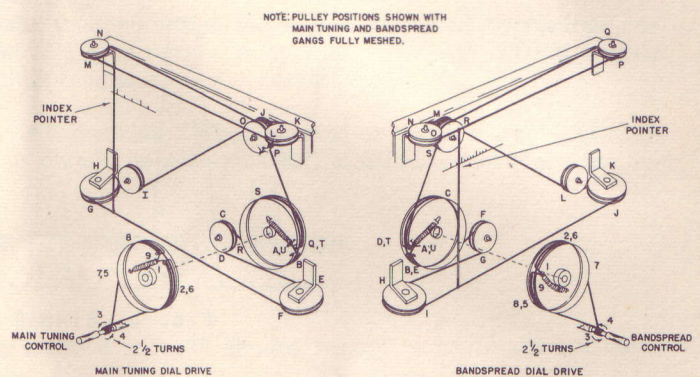

FIG. 9. DIAL CORD STRINGING PROCEDURE 92C962-A
**DRIVE SHAFT** - To restring either one, use a 26 inch length of 30 lb. test dial cord. Tie one end of the cord to the spring at position 1, stretch the spring and follow the stringing sequence 1 to 9 as shown in Fig. 9. At position 9, tie the cord securely to the spring. Note that two and one half turns of dial cord are wrapped around the drive shaft for proper traction.
**POINTER DRIVE** - To restring either one, use a 66 inch length of 30 lb. test dial cord. Tie one end of the dial cord to the spring at position A, stretch the spring and follow the stringing procedure A through U as shown in Fig. 9. At position U, tie the cord securely to the spring.
With the pointer drive pulleys positioned as shown in Fig. 9, the tuning capacitor plates should be fully meshed. The main tuning and bandspread dial pointers should be fastened to the dial cord and aligned with the 0 positions on the logging scales. The ends of the pointers should be carefully crimped around the dial cord and cemented in place.